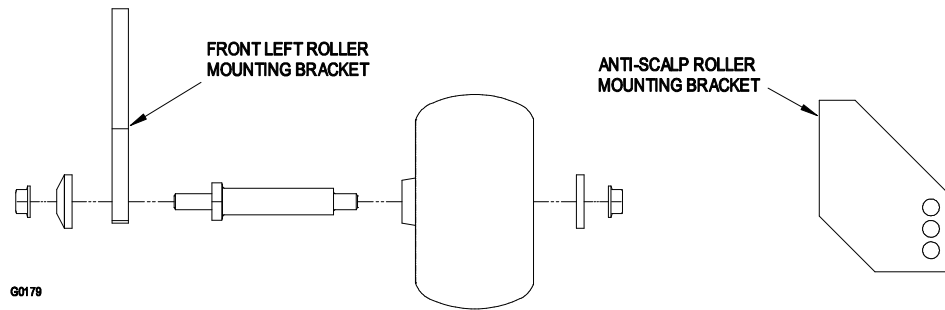

FIGURE 11
- b) Place rollers in one of the positions shown in Figure 11. Rollers should maintain 3/4 in. (19 mm) clearance to the ground to minimize gouging and roller wear or damage.